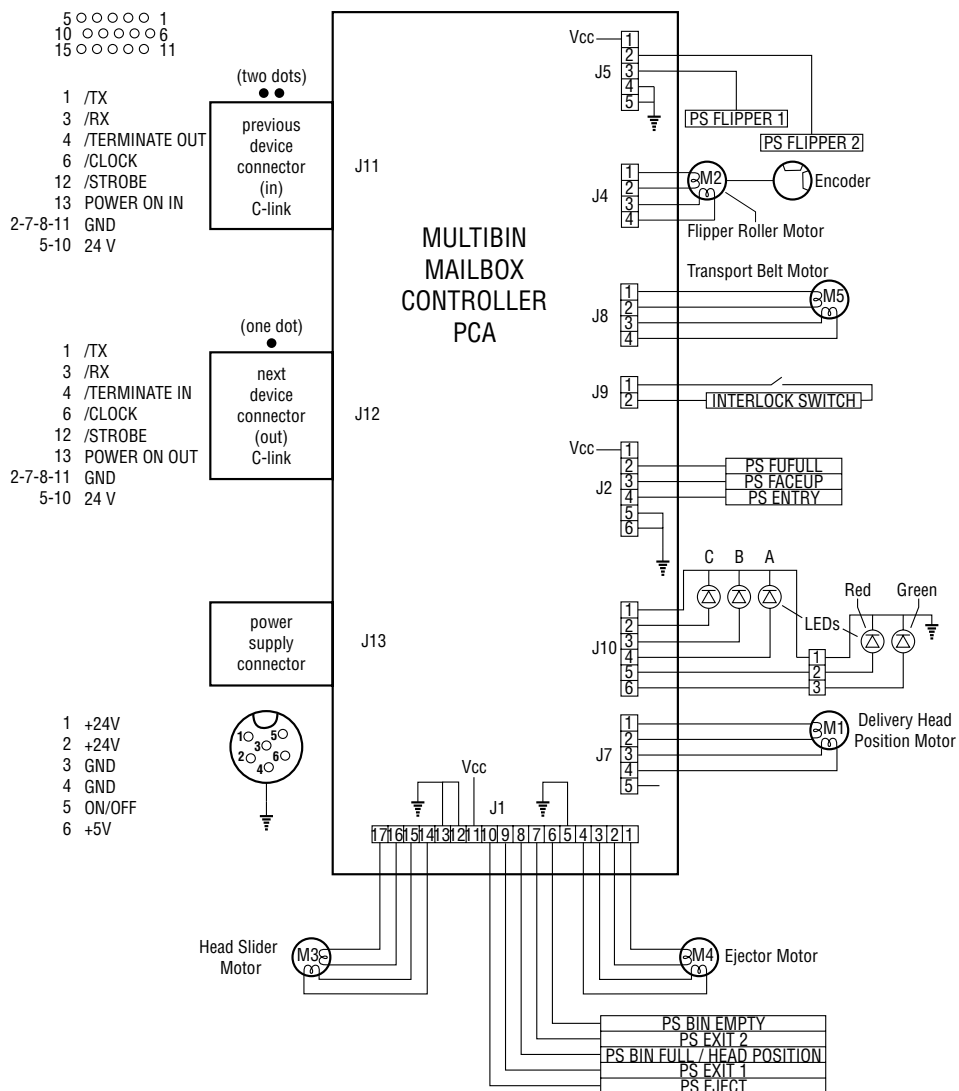

Figure 7-36 8-bin Mailbox Main Wiring Diagram
- Figure 7-36, "8-bin Mailbox Main Wiring Diagram," on page 714
- ① : FACE-DOWN TRAY DELIVERY SENSE signal (/FDOUTS)
- ② : FACE-DOWN TRAY PAPER FULL SENSE signal (/FDDULS)
- ③ : FUSING UNIT DELIVERY SENSE signal (FPOUTS)
- ④ : TRAY 2 PAPER SIZE SENSE signal
- ⑤ : TRAY 3 PAPER SIZE SENSE signal
- ⑥ : TRAY 3 PAPER-LEVEL SENSE signal 1 (LVPS1)
- ⑦ : TRAY 3 PAPER-LEVEL SENSE signal 2 (LVPS2)
- ⑧ : TRAY 3 SENSE signal (/LDECKC)
- ⑨ : TRAY 3 PAPER-OUT SENSE signal (/LDECKS)